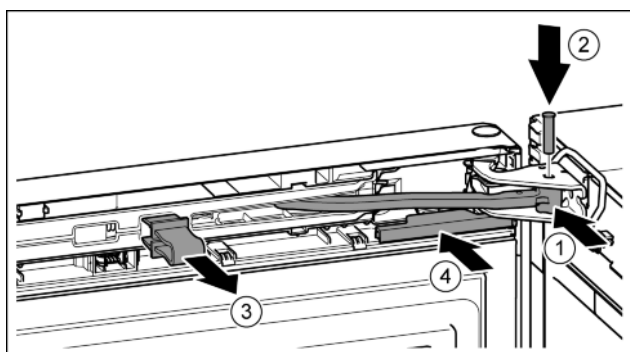

Fig. 25
- ▶ Turn the hinge in the bearing bracket. Fig. 25 (1)
- ▶ Insert the bolt in the bearing bracket and hinge. Make sure that the catch mechanism is sitting correctly in the groove. Fig. 25 (2)
- ▶ Remove the locking device. Fig. 25 (3)
- ▶ Slide on the cover. Fig. 25 (4)